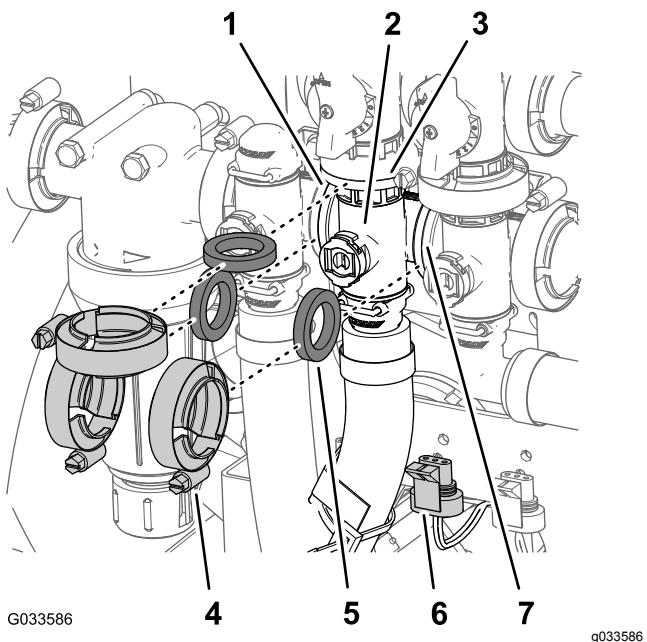

Figure 100
1. Remove 3 flange clamps and 3 gaskets that secure the manifold for the agitation valve (Figure 100) to the agitation bypass valve, rate control valve, and master-boom valve.